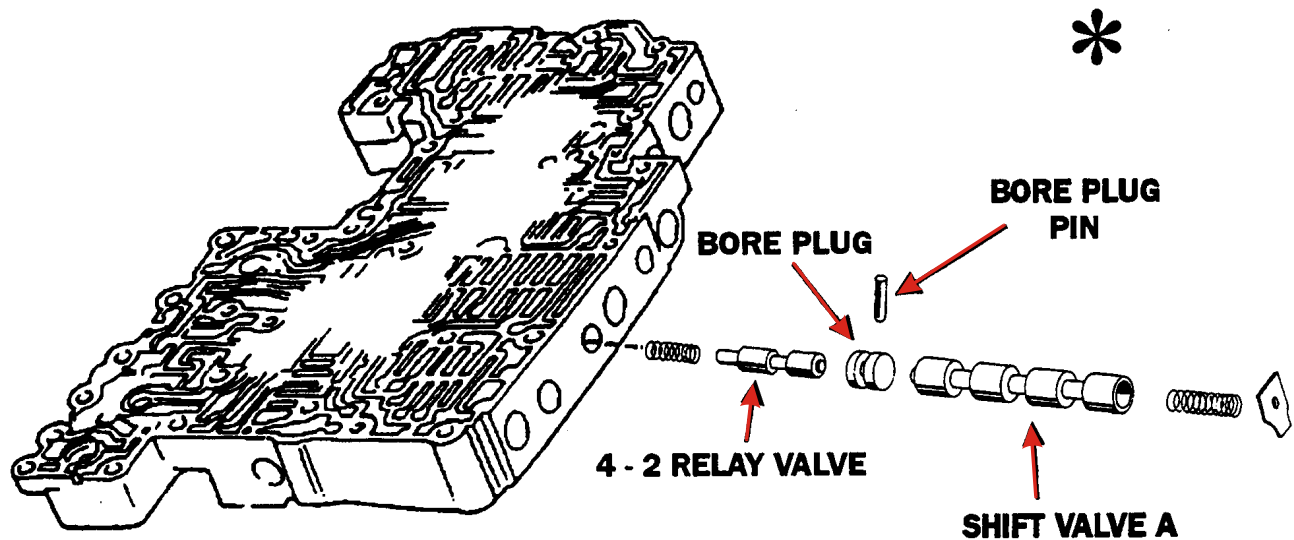

Figure 2
3. Replace the broken bore plug, making sure that no pieces are lodged in the worm tracks. Clean the bore so that the plug fits smoothly and the roll pin holds it securely in place. See Figure 2. -
* Due to differences in certain line ups between the RE4R01A valve bodies and the JR403-E valve bodies, only the shift valve A line up is addressed in Figure 2. For other line up identification refer to the proper Techtran manual.